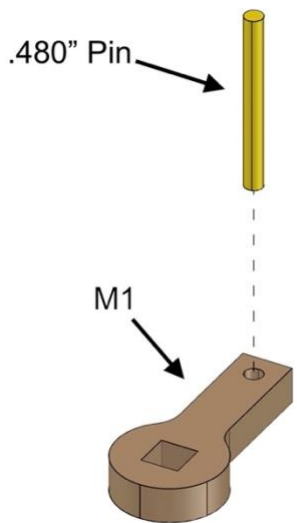

Fig. 20.3
- Align parts exactly as shown in Fig. 20.3.